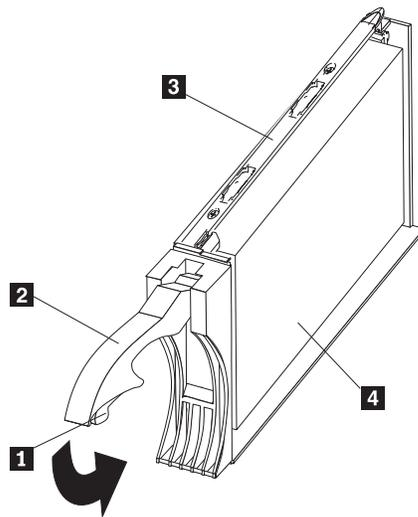

Figure 41. Releasing the drive latch
Note: The hard disk drive comes with a tray already attached. Do not attempt to detach the drive **4** from the tray **3**. See Figure 41.
- a. Release the blue latch **1** on the drive CRU by pressing on the inside of the bottom of the tray handle. See Figure 41.